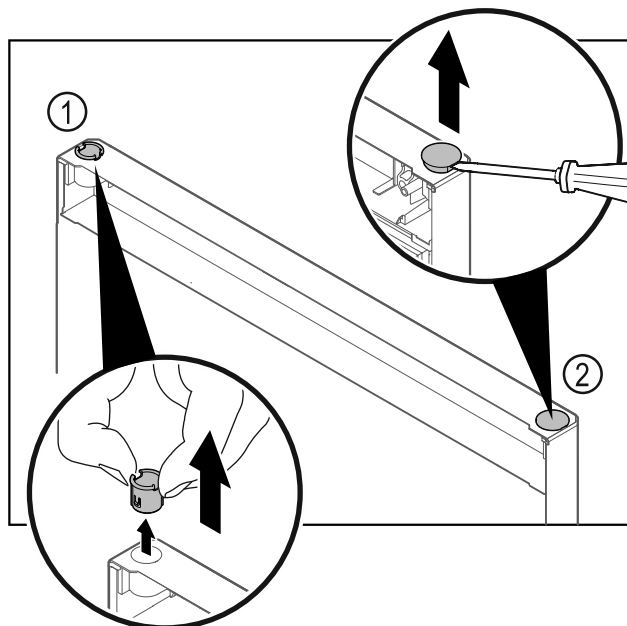

Fig. 30
- ▶ Pull out the hinge bushing Fig. 30 (1) with your fingers.
- ▶ Carefully lift the cover plug Fig. 30 (2) with a slotted screwdriver and pull it out.